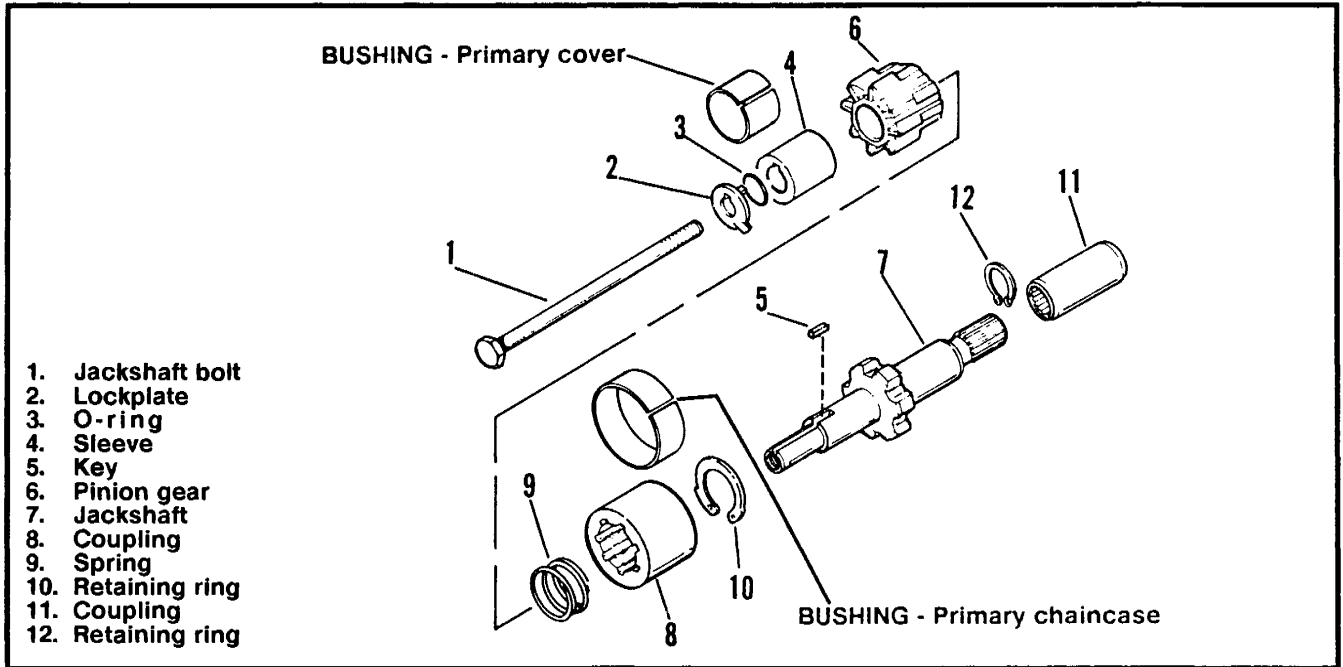

Figure 5-45. Jackshaft
See Figure 5-45. Lubricate splines inside coupling (11) with Loctite® Anti-seize. Be sure jackshaft coupling engages starter shaft. On 1990 models, coupling end with counterbore must face jackshaft.
5. See Figure 5-45 for 1989 models. Install jackshaft lockplate (2), O-ring (3) and bolt (1). Hold pinion gear in place and tighten bolt to 7-9 ft-lbs torque. Bend lockplate tab against flat on bolt head.